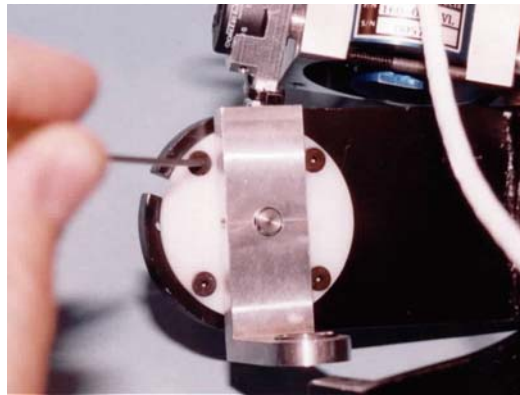

Figure 10.13- Attachment of rotary bushing to bracket
12. Secure the rotary bushing to the left attachment bracket using four #4-40 x 3/8" FHSCS {1/16}, as shown in **Figure 10.13**. Ensure that the engraved arrow is still oriented upwards.